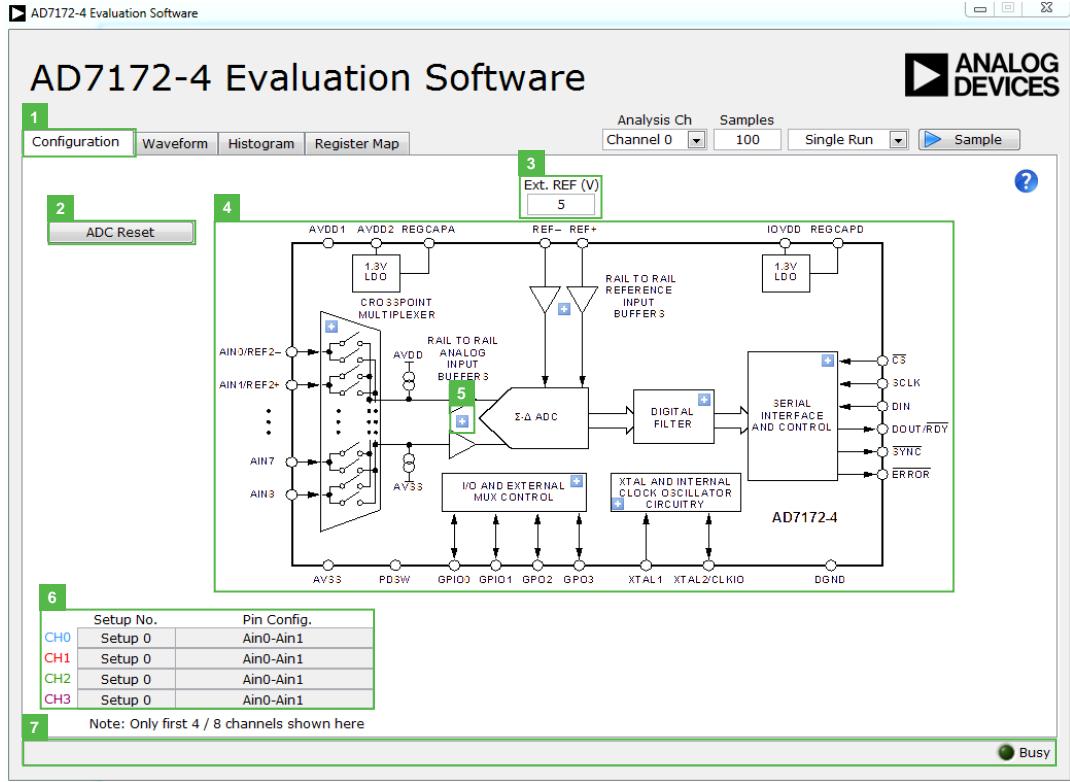

Figure 7. Configuration Tab of the AD7172-4 Evaluation Software
1. From the **Start** menu, click **Programs > Analog Devices > EVAL-AD7172-4SDZ**. The main window of the software displays (see Figure 7).
The main window of the software displays the control buttons and analysis indicators of the AD7172-4 evaluation board software (see Figure 7). This window is divided into four tabs: **Configuration**, **Waveform**, **Histogram**, and **Register Map**.
See Figure 7 for the **Configuration** (1) tab.
Click the **ADC Reset** (2) button to perform a software reset of the AD7172-4 (see Figure 7). The AD7172-4 does not have a hardware reset pin. Perform a hard reset by removing power to the board. The software reset has the same effect as a hard reset.
The **Ext. REF (V)** (3) box sets the external reference voltage used for calculating the results on the **Waveform** and **Histogram** tabs (see Figure 7). The evaluation board has an external 5 V ADR445 reference that can be disconnected by removing R32. You can change the external reference voltage value within this box to ensure the correct calculation of results on the **Waveform** and **Histogram** tabs.
The functional block diagram (4) of the ADC shows each of the separate functional blocks within the ADC (see Figure 7). Click one of the configuration buttons in this graph to open the configuration pop-up window for that block. Not all blocks have a configuration button.
The configuration pop-up button (5) opens a window that allows configuration of the relevant functional block (see Figure 7).
The channel configuration overview (6) section shows the channel configuration, including setup and analog inputs (see Figure 7). This provides a quick assessment of how the ADC is set up.
The status bar (7) displays status updates such as **Analysis Completed** and **Reset Completed** during software use, as well as the software version and **Busy** indicator (see Figure 7).
To exit the software, click the close button at the top right corner of the AD7172-4 Evaluation Software window (see Figure 7).